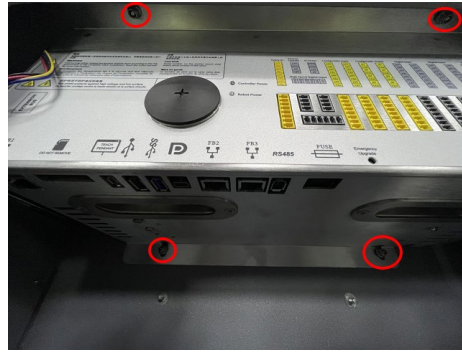

Figure 3-34 Remove the installation module
- As Figure 3-34, lay the controller flat, release the 4 anti-loosen nuts that mounted the sheet metal module. Disconnect the fan cable and teach pendant cable. Remove the sheet metal module and put it on the box bracket, please do not let the flash card and fuse to interfere with the box.